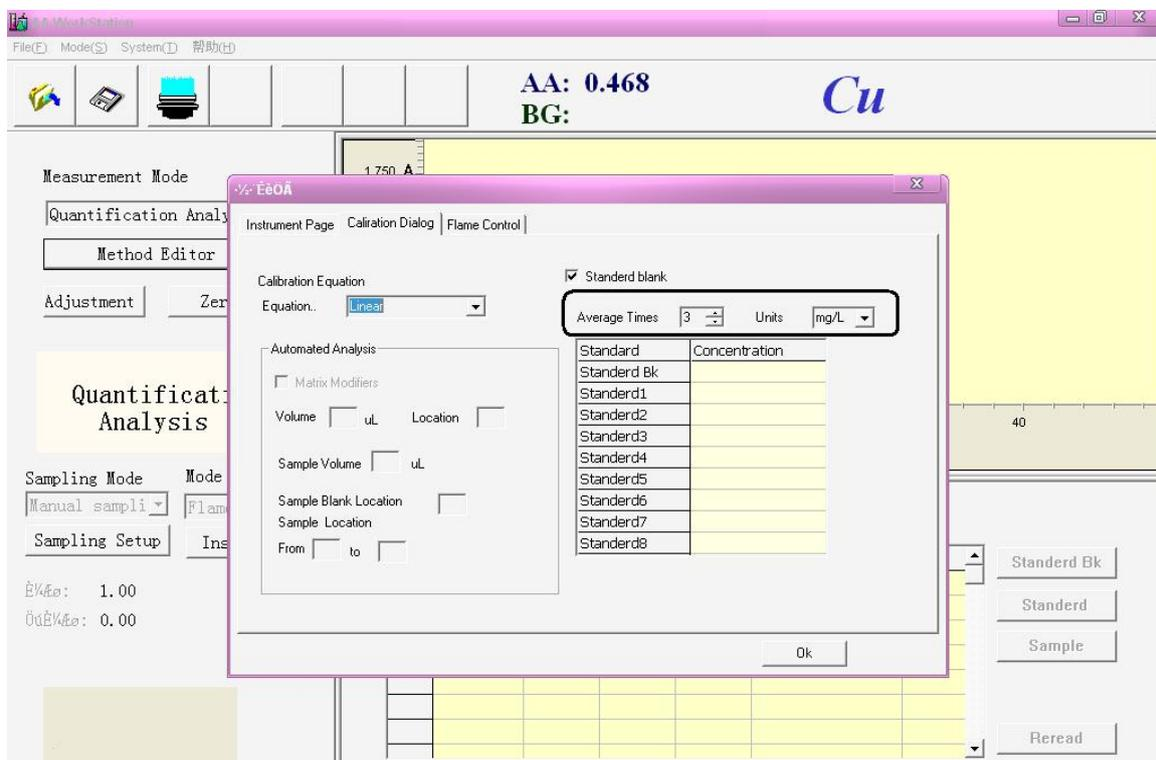

Figure 4-37
2."Average times".input a appropriate value between 1 and 21.Two methods,one is inputting the value directly in the input box,the other is press the arrow on the right of the input box(Figure 4-37)